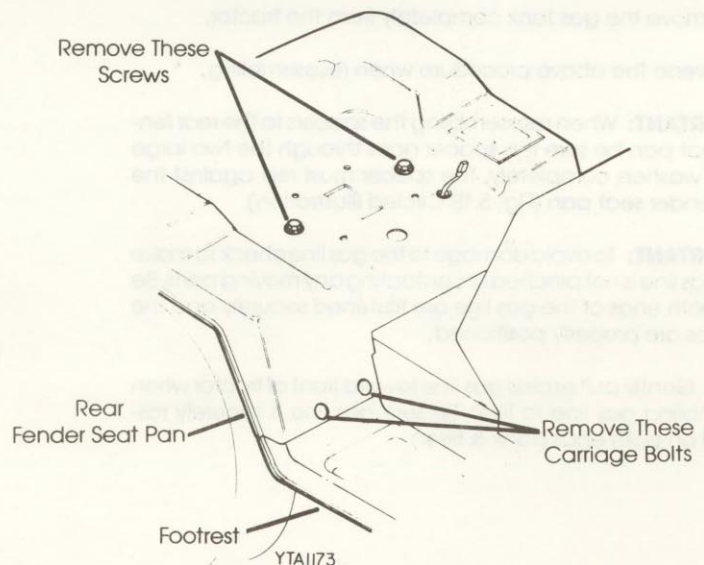

FIG. 5.1C
5. Remove the two screws holding the rear fender seat pan to the support (Fig. 5.1C).
6. Remove the two carriage bolts mounting the rear fender seat pan to the footrest (Fig. 5.1C). Repeat for the other footrest.